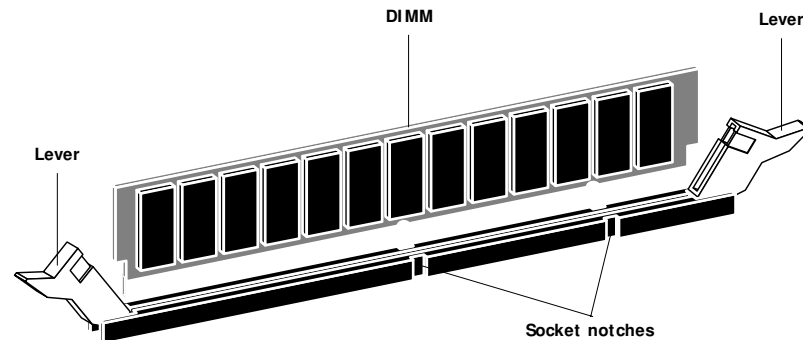

FIGURE 4-22 Releasing a DIMM
1. To release a DIMM, push outward on the levers on each side of the DIMM. (See Figure 4-22.)